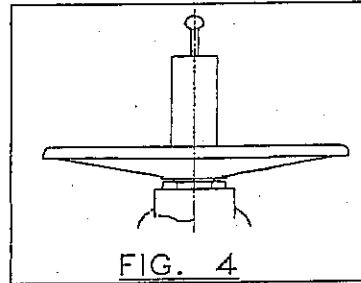

FIG. 4
- *Figure 4* ► it represents a valve with a direct wheel and position indicator.